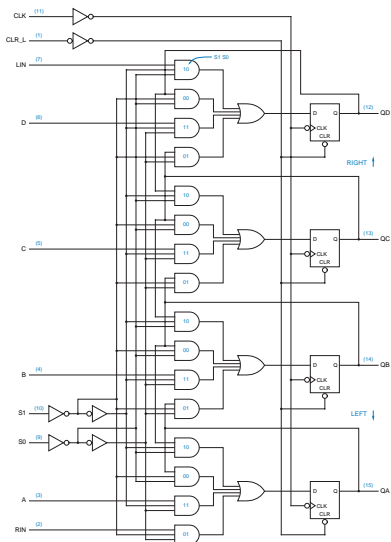

Figure 6: Logic diagram for the 74x194 4-bit universal shift register, including pin numbers for a standard 16-pin dual in-line package.
- Its logic diagram is shown in Fig. 6